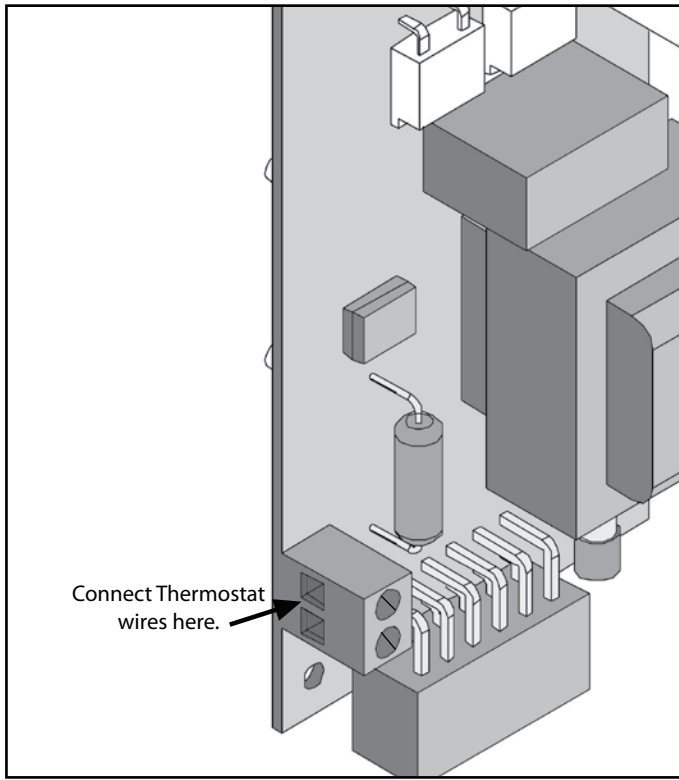

Figure 26: Thermostat Wire Location
3. The harness will need to be unplugged from the board in order to move cabinet side away from the unit. Once the harness is unplugged you can easily access the circuit board and will be able to attach the thermostat wires to the thermostat connection shown in Figure 26.